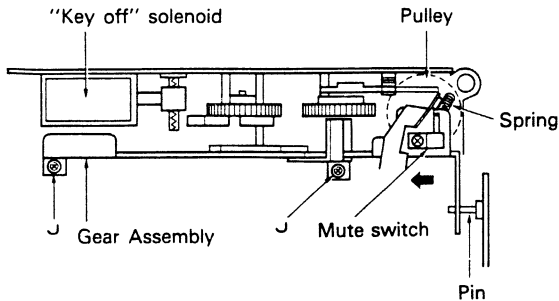

Fig. 10
1. Remove the pulley which is beneath the chassis (Figure 10). Remove the two screws (labeled "J") retaining the spring and gear assembly and lift that assembly upward. The gear assembly can now be removed from its pin by pulling it in the direction indicated by the arrow.